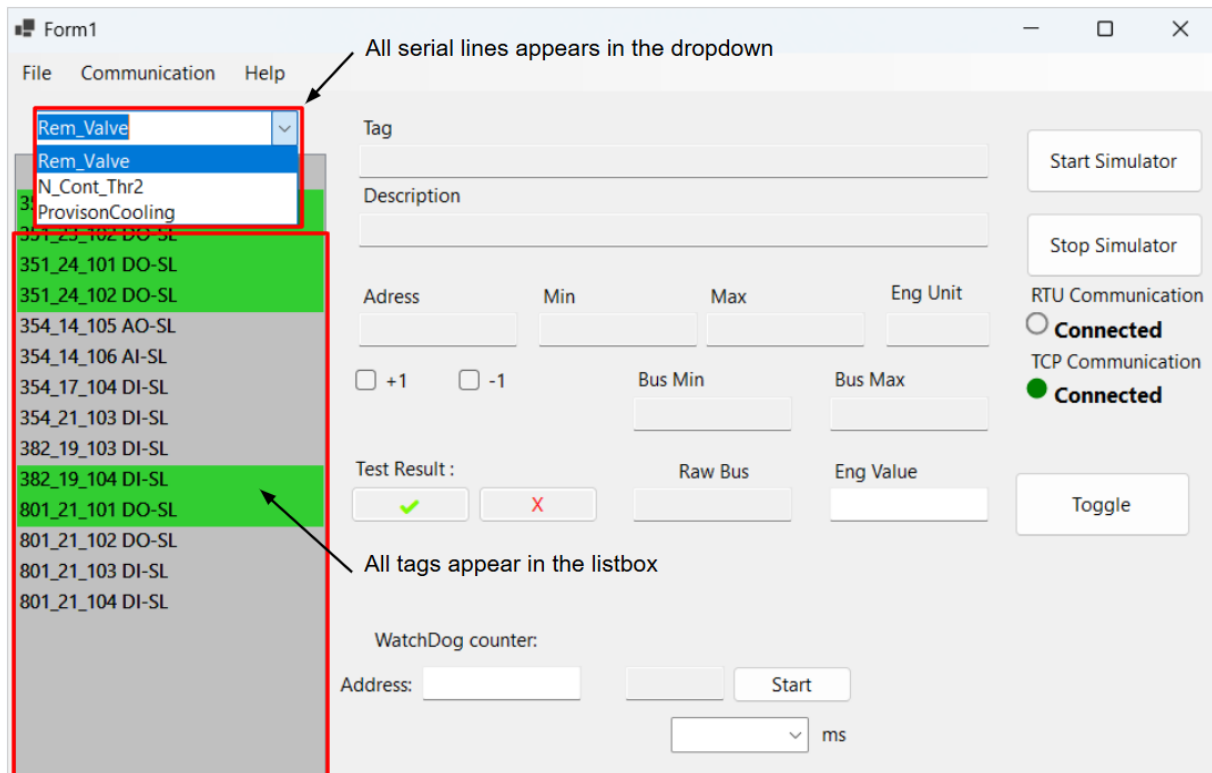

Figure 7 – Serial lines and tags
1. Once IO-list has been imported, press the dropdown box shown in figure 7 and select the serial line you want to test. Tags will fill in the box under when you have selected a serial line